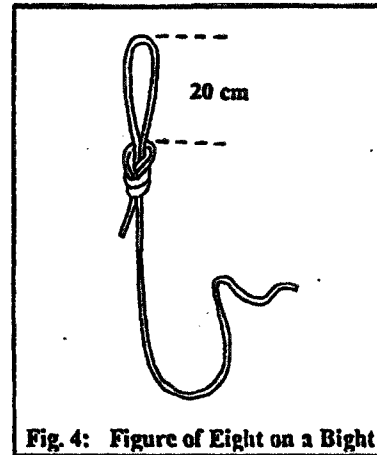

Fig. 4: Figure of Eight on a Bight
1. To begin making the long foot Prusik, tie a Figure of Eight on a Bight at one end of the 10 m length of cord (Fig. 4). Make the bight approximately 20 cm long. The bight needs to be this length so that a 3 wrap (6 coil) Prusik Hitch could be tied onto the rope being ascended, even though a 2 wrap (4 coil) will most likely be used.